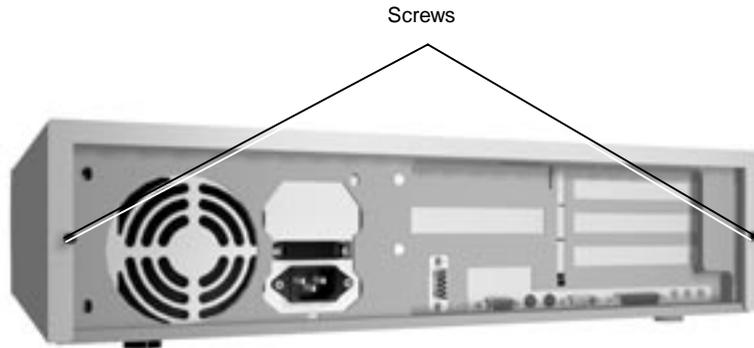

Figure 5-1 System Unit Cover Screws
2. Remove the two cover screws shown in Figure 5-1.